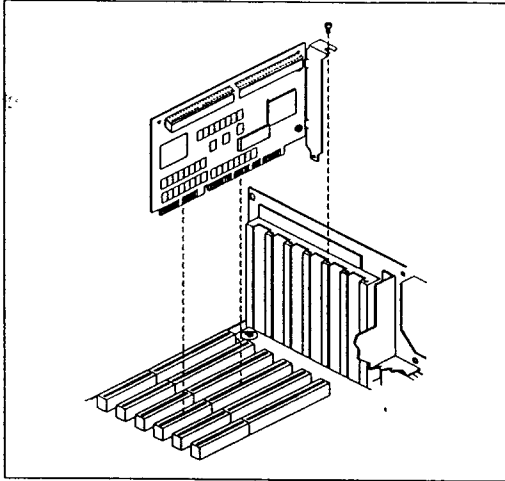

Figure 2-2. Adapter Insertion
4. Align the AT I/O bus connector on the bottom of the Floptical Host Adapter to the open AT slot with the slot cover removed. Ensure the external connector passes cleanly through the cutout in the rear panel. Firmly plug the Floptical Host Adapter into this AT slot as shown in Figure 2-2.